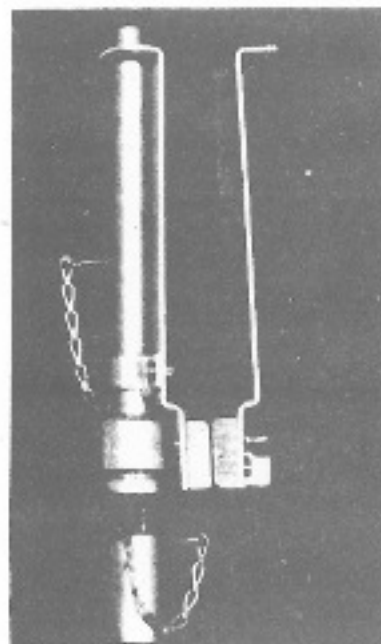

Fig. 3. The top of the telescopic rod
6. (a) Probe Unit. The unit consists of an ionisation chamber (see Fig. 2) attached to the top section of a telescopic rod (see Figs. 3 and 4) inserted into a pipe fitted into the roof of the underground post monitoring room. The chamber is connected to the indicator unit by an electric cable. A clamp (see Fig. 5) is also provided to fix the rod in the retracted position when shielded readings are being taken.